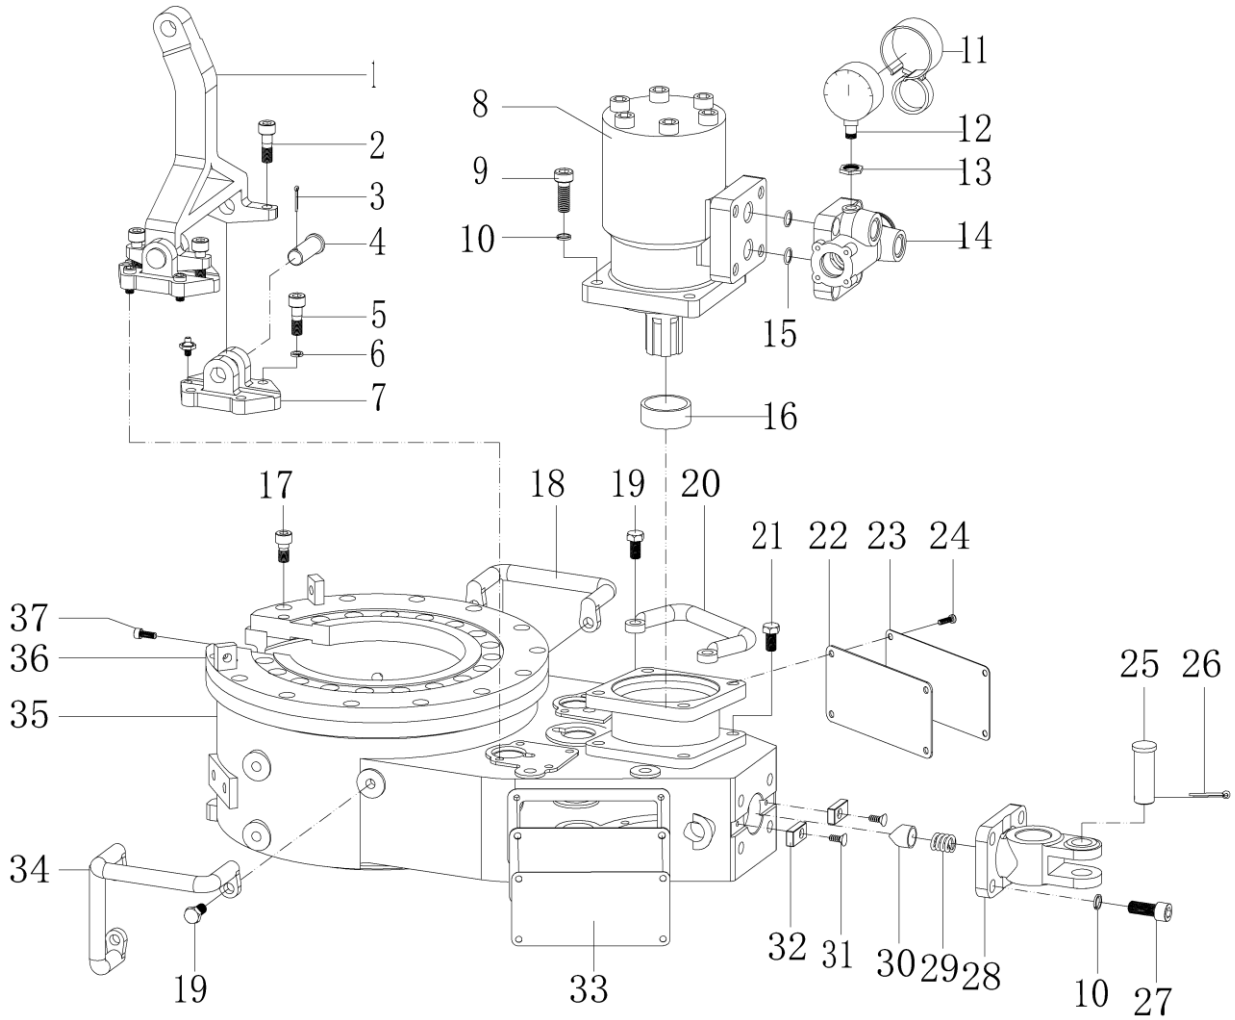

Fig 7
9.3 Shell and accessory and parts list (Fig 7, Table 3)